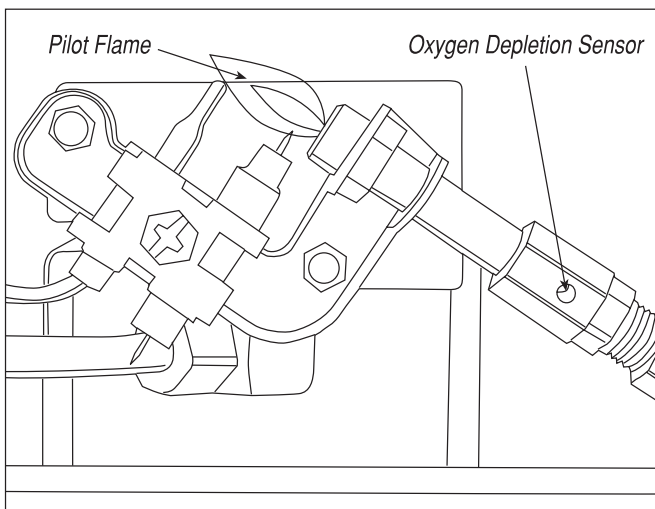

Figure 2
Visually inspect the pilot flame and burner periodically during use. The pilot flame should be blue in color (not yellow) and will extend beyond the thermocouple. The flame will surround the thermocouple just below the tip, see Figure 2, below. A slight yellow flame may occur where the pilot flame and main burner flame meet. The burner should be bright orange (with a slight
- 4 Remove (1) burner assembly retaining screw from bottom of the heater.
- 8 Inspect and clean pilot (mounted to bracket) by using a vacuum or apply air pressure through the holes in the pilot indicated by the arrows in Figure 2, at left.
- 12 Install wire guard by gently bending and inserting into the (4) holes in the front cover.